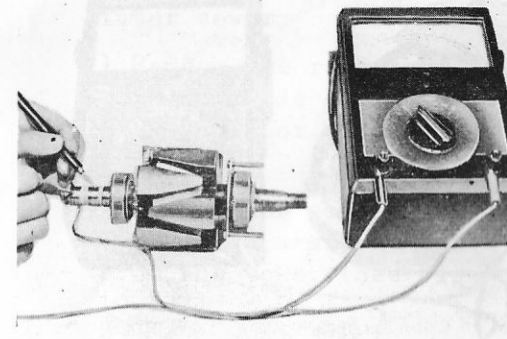

Fig. 10-131
- 5) Measure the resistance of the field coil by holding tester nozzles right against the slip rings. The resistance of the field coil may be regarded as normal if the measured value is between 4-5 ohms. If the value is lower than 4 ohms, the trouble may be attributed to internal short-circuit. Greater resistance may be provided if the field coil is disconnected. (Fig. 10-131)